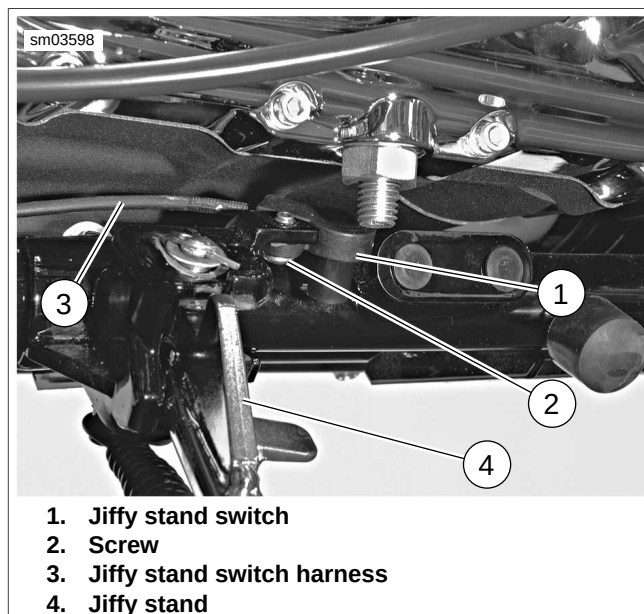

Figure 6-123. Jiffy Stand Switch
See Figure 6-123. International models are equipped with a jiffy stand interlock feature. If the rider attempts to start the engine or pushes the starter button while the transmission is in gear and the jiffy stand is down, the jiffy stand interlock system will not permit the engine to run. The message "SidE StAnd" will scroll across the odometer to indicate this to the rider. Raising the jiffy stand (or putting the transmission in neutral) will permit the engine to run and clear the message.
4. See Figure 6-123. Remove screw (2). Remove jiffy stand switch (1) and harness from vehicle.
- See Figure 6-123. Install jiffy stand switch (1), attach with screw (2), finger-tight.